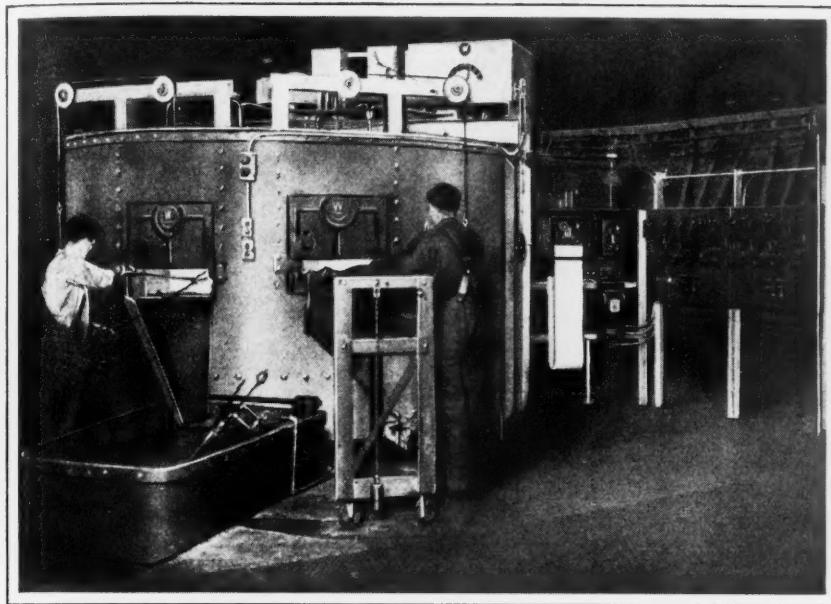
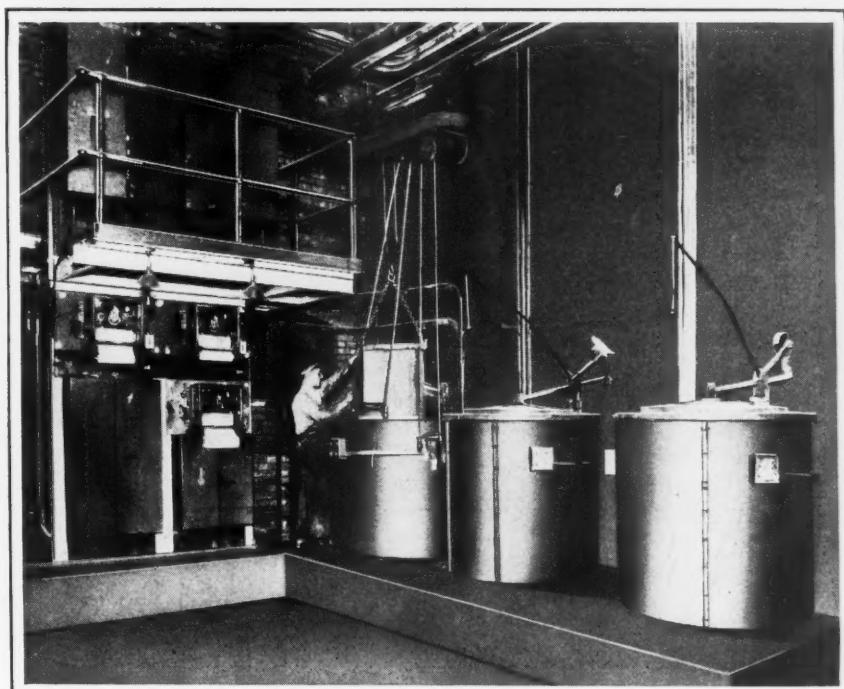

Fig. 1. Electric Rotary-hearth Furnace in which Forgings are Uniformly Heated for Hardening
Fig. 2. Three "Homo" Furnaces Employed for Tempering "Superrenches" and Other Parts
**I**N order to insure uniformity of heat-treated work, J. H. Williams & Co., Buffalo, N. Y., has installed an electric rotary-hearth hardening furnace and three "Homo" tempering furnaces equipped with accurate means of temperature and heating-period control. This equipment may be seen in the accompanying illustrations. Drop-forged tools, automobile connecting-rods, spring clips, shock absorber parts, rocker arms, aircraft forgings, and similar parts are handled in the rotary-hearth furnace shown in Fig. 1, while chrome-molybdenum steel "Superrenches" and other forgings that can be placed in baskets are handled in the "Homo" furnaces illustrated in Fig. 2.
Two of the Leeds & Northrup "Homo" forced-convection drawing furnaces shown in Fig. 2 are designed for use at temperatures up to 1200 degrees F., while the third is suitable for temperatures up to 800 degrees F. All three furnaces accommodate a basket 21 inches in diameter by 26 inches deep. Leeds & Northrup temperature-recording potentiometer pyrometers also control the operation of these furnaces.
The chart shown in Fig. 1 may be used for determining the weight of a spring made from any circular section wire that is manufactured in accordance with the Washburn & Moen gage system. This covers the majority of steel springs. The chart shown in Fig. 2 is for use in finding the weight of helical springs made of square section wire, while the chart in Fig. 3 is for springs of circular section wire made according to the Brown & Sharpe gage, which includes most non-ferrous alloys. The deci-